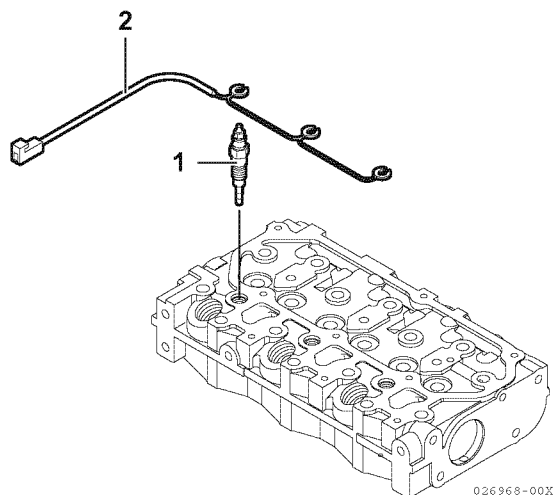

Figure 6-33
1. Install the glow plugs (**Figure 6-33, (1)**) and tighten to specification. Install the electrical harness (**Figure 6-33, (2)**).